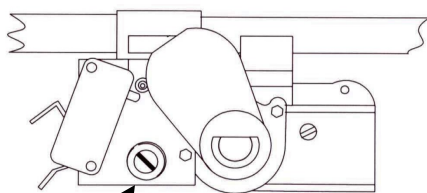

Fig. 5
5. Once the pilot is lit, locate the pilot adjustment screw on the lower left hand side of the oven thermostat control. See Fig. 5